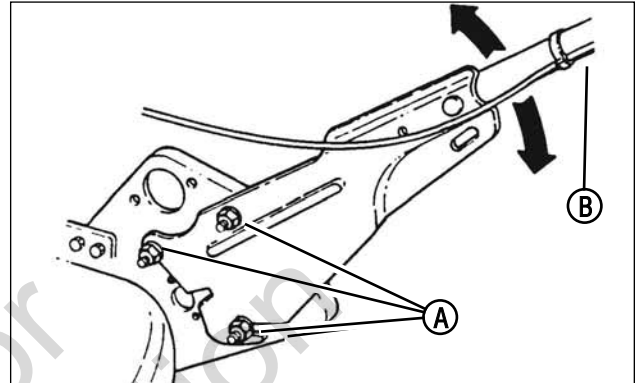

Figure 5: Adjusting the handle height
1. Loosen the lower nuts **(A, Figure 5)** on each lower handle.